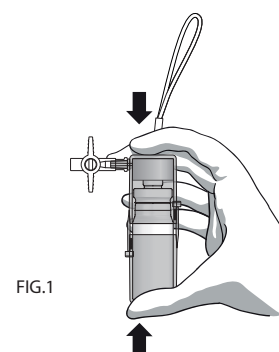

FIG.1
**Press the two half-shells of the canister** (fig. 1) **bringing them together to hook each other.**